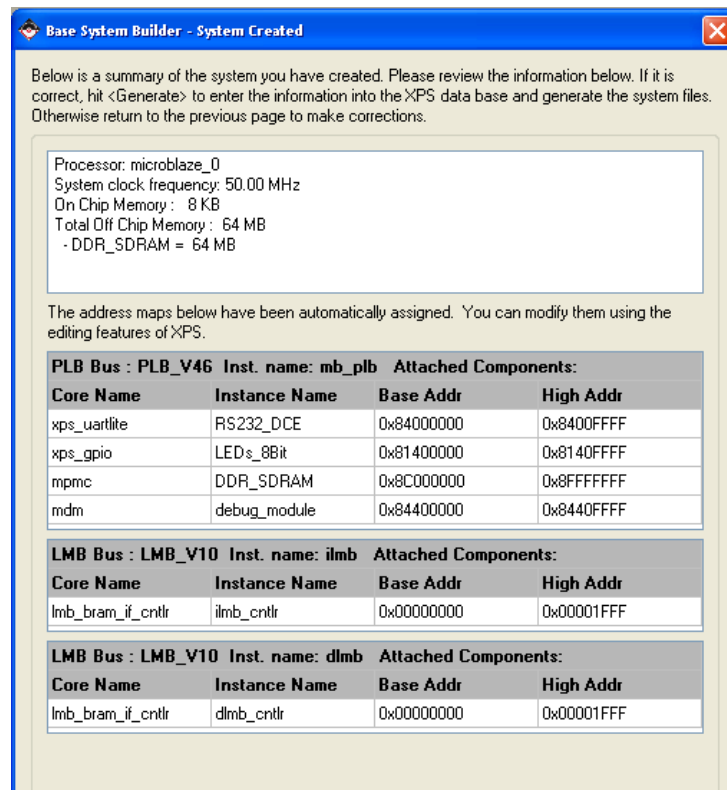

Figure 1-13. System Created Dialog Box
- ⑥ Verify the system summary in the **System Created** dialog (**Figure 1-13**) and click **Generate**